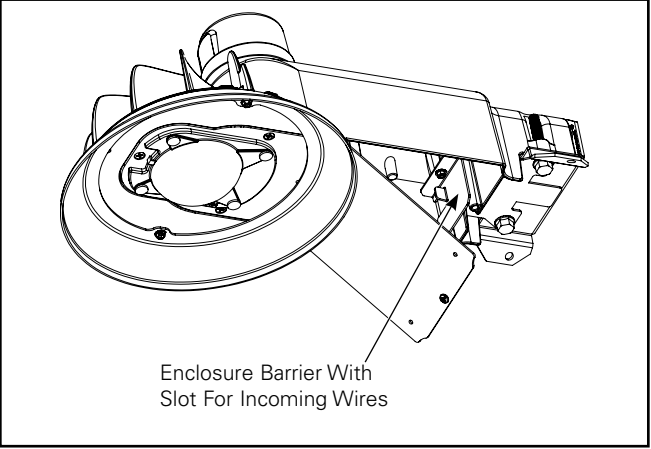

Figure 7.
1. Open fixture using screwdriver and allow access door to hang from ground tether. (Figure 7.)